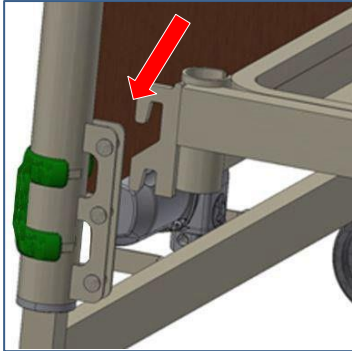

Figure 4: Foot section attachment to bed end
7. Lift the head platform section onto the head section (*figure 4*) and clip into the bracket. Ensuring that the head platform section is fully clipped in place.